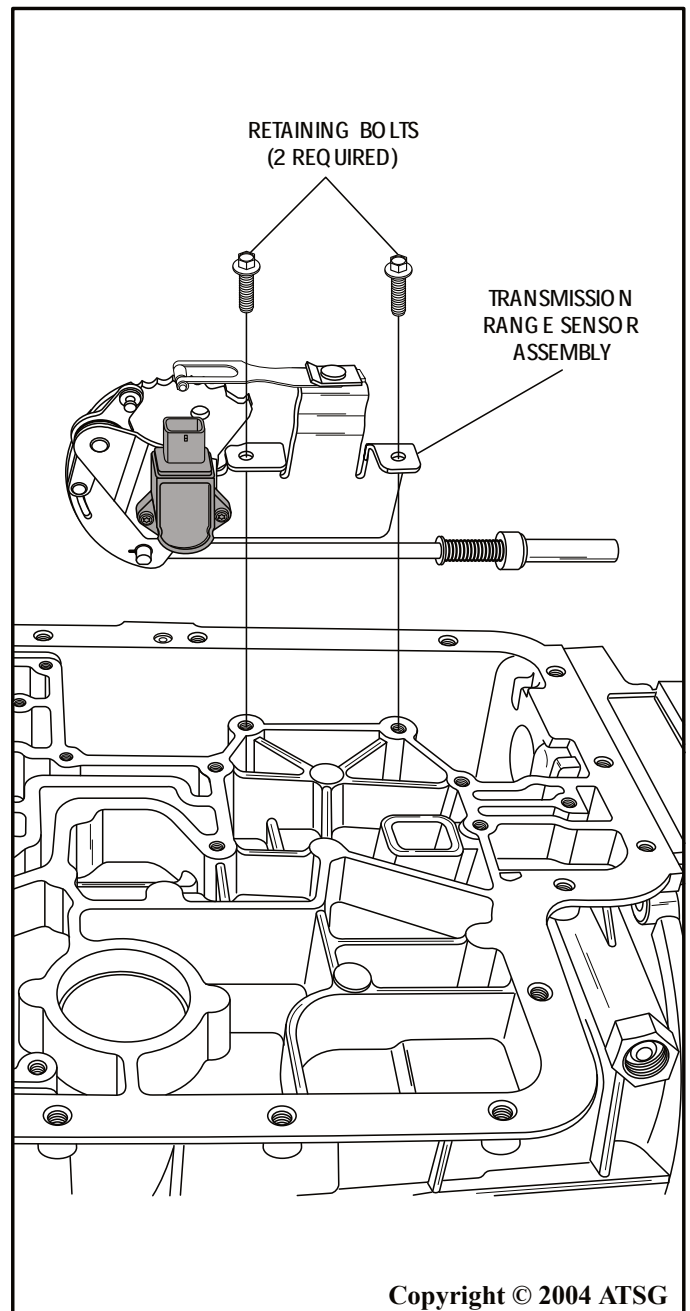

Figure 37
21. Remove the two TRS retaining bolts, as shown in Figure 37, and remove the transmission range sensor assembly and parking rod as an assembly (See Figure 37).